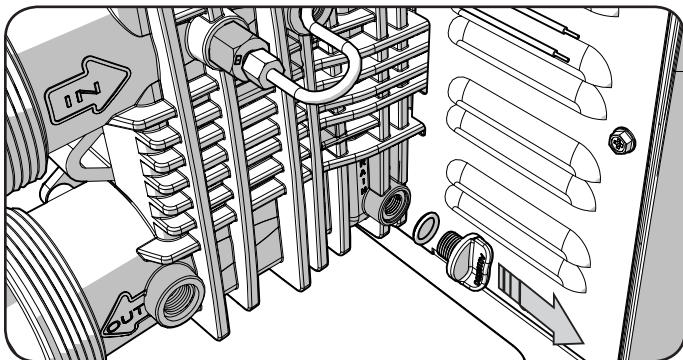

Figure 2. Drain Header
- (Optional) The water can be drained from the heater by removing the thumbscrew at the header. See Figure 2.